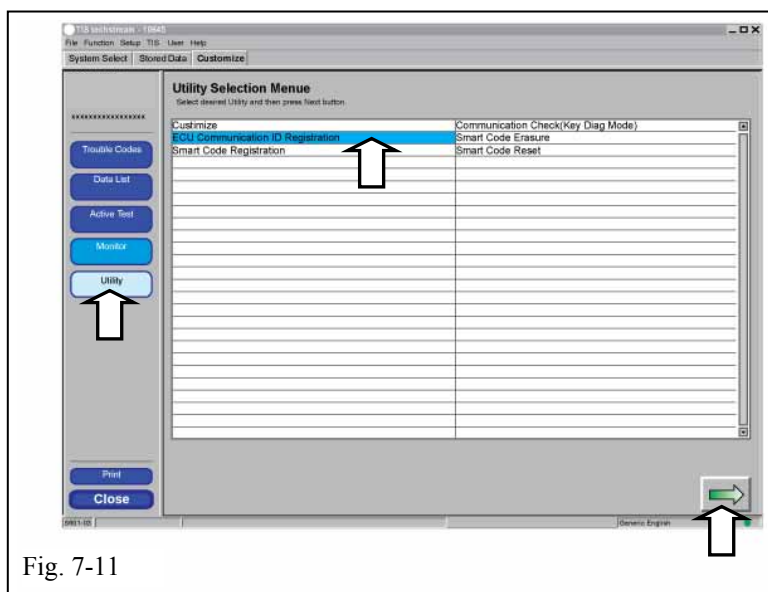

Fig. 7-11
- (u) Click on “Utility.” (Fig. 7-11)
(v) Select “ECU Communication ID Registration.” (Fig. 7-11)
- (w) Click . (Fig. 7-11)